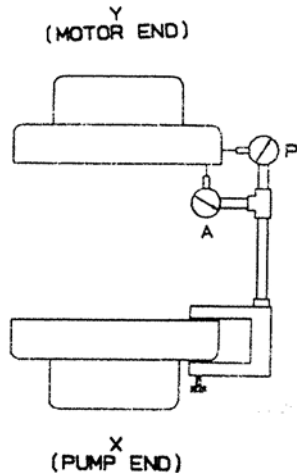

Figure 5: Dial indicator setup
Step 1: Reduce the center distance so that the belts may be placed over the sheaves and in the grooves without forcing them over the sides of the grooves. Arrange the belts so that both belt spans have approximately the same sag between the sheaves. Apply tension to the belts by increasing the center distance until the belts are snug, see Fig.5.